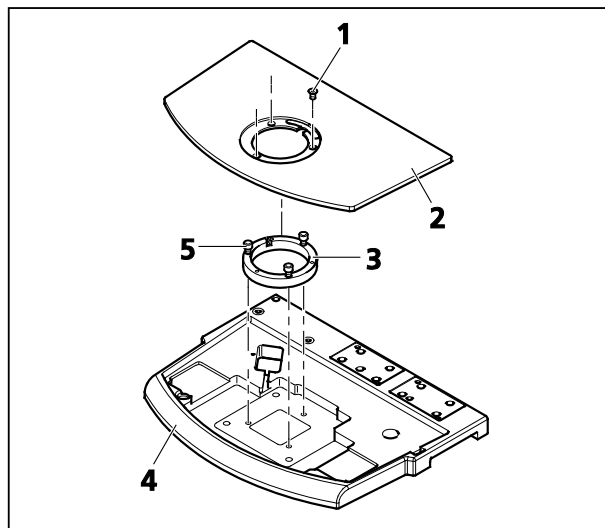

Fig. 12 Mounting the adapter ring
When using stand base 450 it must be ensured that the adapter ring (Fig. 12/3) has been mounted for holding stages.
- Removing stage insert plate (Fig. 12/2). Remove the three screws (Fig. 12/1).
- Insert the adapter ring (Fig. 12/3) into the stand base (Fig. 12/4) and secure with the three captive screws (Fig. 12/5).